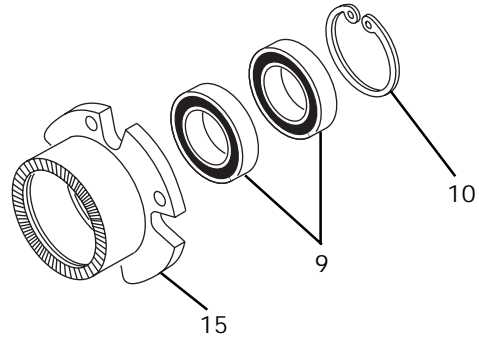

FIGURE 8
1. Remove Retaining Ring (Item 10) (See Figure 8).
2. Press Ball Bearings (Item 9) out of Drive Flange (Item 15) (See Figure 8).